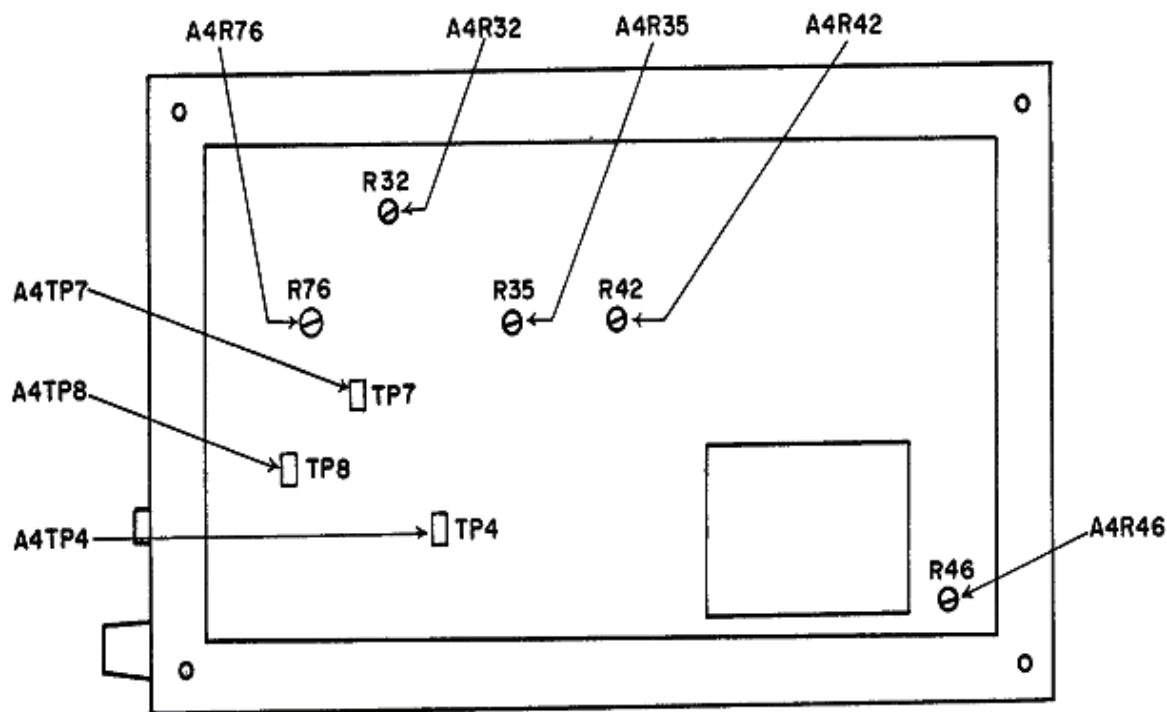

Figure 2. Model 435A - right view.
- (1) Adjust A4R35 (fig. 2) for a 1 V indication on TI meter.
- (2) Set TI **LINE** switch to **OFF**. If TI meter does not indicate **0** (zero), adjust to **0** using adjustment screw located below meter face.
- (3) Set switches as listed in (a) through (d) below:
- (4) Set range calibrator switches as listed in (a) through (c) below:
- (5) Connect frequency counter between A4TP8 (fig. 2) and ground. If frequency counter does not indicate between 204 and 236 Hz, for model 435A, or between 208 and 232 Hz for model 435B, perform (6) through (10) below. If frequency counter is within limits, proceed to (11) below.
- (a) Establish a horizontal grid line as dc average of test point A4TP4 (fig. 2) by setting range calibrator **FUNCTION** switch to **STANDBY**.
- (10) Adjust A4R76 (fig. 2) until zero crossover lags the square wave 150  $\mu$ s (R).
- (11) Repeat (3) above.
- (12) Position A4R46 (fig. 2) to its mechanical center position.
- (13) Adjust A4R32 (fig. 2) until multimeter indicates  $0 \pm 0.2$  mV dc (R).
- (14) Set range calibrator **FUNCTION** switch to **CALIBRATE** and TI range to **1 mW**.
- (15) Adjust **CAL ADJ** until multimeter indicates  $1,000 \pm 1$  mV dc.
- (16) Adjust A4R35 (fig. 2) until TI meter indicates full scale (R).
- (17) Set range calibrator to **STANDBY**.
- (18) Set **RANGE** switch to **3  $\mu$ W** and press and hold **ZERO** switch. Adjust A4R42 (fig. 2) until multimeter indicates 0 mV dc (R). Release **ZERO** switch.
- (19) Set TI **RANGE** switch to **1 mW**.
- (20) Set range calibrator **FUNCTION** switch to **CALIBRATE**.
- (21) Press and hold **ZERO** switch. Adjust A4R46 (fig. 2) until multimeter indicates 961 mV dc (R). Release **ZERO** switch.